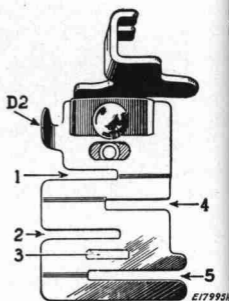

FIG. 51
The distance from the line of stitching to the edge of the material in the slots is regulated by moving the lug **D2**, **Fig. 51** to the right or left.
- (1) Insert one of the laces in slot **1** of the edge-stitcher and the other in slot **4**, **Fig. 51**.
- (2) Adjust the lug **D2** until the edges to be joined are caught by the stitching.
- (3) Slightly overlap the edges of the lace while stitching to keep them against the ends of the slots.
- (4) Loosen both thread tensions to avoid puckering of fine lace.
- (1) Fold the edge of the material to which the lace or ribbon is to be sewn and insert it in the slot **1**, **Fig. 51** of the edge-stitcher.
- (2) Insert the lace or ribbon in the slot **4** of the edge-stitcher and proceed to sew.
- (3) Cut away the surplus folded material close to the stitching.
- (1) Cut the piping bias and twice the width of the slot **3** so that it can be folded once.
- (2) Insert the piping with its folded edge to the left in slot **3** and the edge to be piped in slot **4**, **Fig. 51**.
- (1) Place the garment under the edge-stitcher and the tape in slot **1** or **4**, **Fig. 51**.
- (1) A wide hem may be stitched evenly on sheets, pillow slips, etc., with the edge-stitcher after the hem has been measured and the edge turned.
- (2) Insert the edge in slot 5, Fig. 51, and adjust the lug D2 to stitch as close to the edge as desired.
- (1) To make a uniform width French seam, insert the two edges to be joined, wrong sides together, in slot 1 or 2, Fig. 51 and stitch close to the edge.
- (2) Fold both right sides together and insert the back of the seam in the slot 1 and stitch, allowing just enough margin to conceal the raw edges.
- (1) Fold and crease the material for the desired width of tuck.
- (2) For succeeding tucks, fold the material the desired distance from the previous tuck, running the fold lengthwise over a straight edge, then crease the folds.
- (3) Insert the creased folds in the slot **1**, **Fig. 51** and adjust the edge-stitcher to the right or left for the desired width of tuck. Use a light tension, short stitch and fine thread and needle.